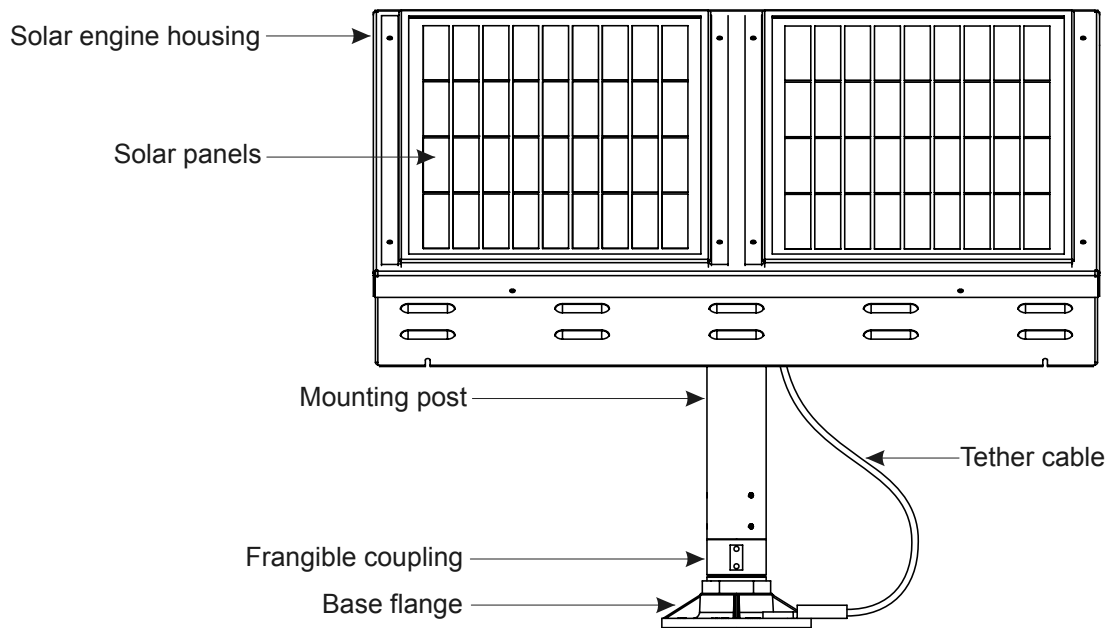

Figure 3-4: Solar Engine
- ◆ solar engine housing (Figure 3-4), including:
- ◆ tether cable (Figure 3-4)